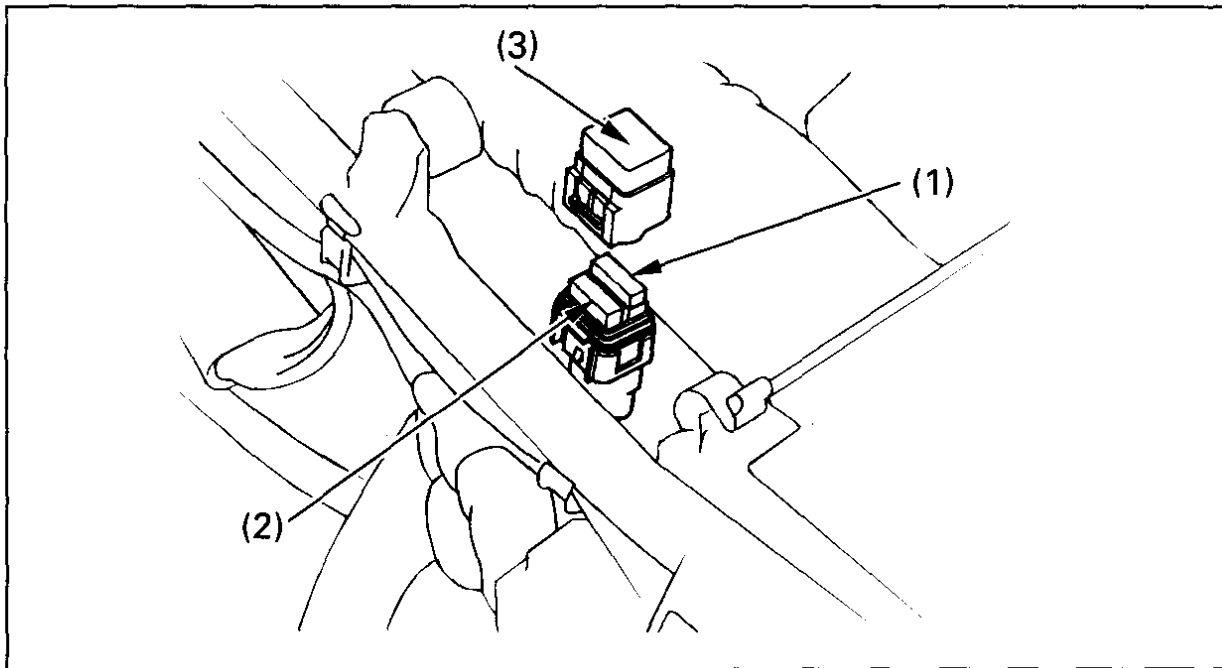

Fig. 4-21
As illustrated in Fig.4-21 , the fuse (1) is located next to the air cleaner case cover behind the seat.